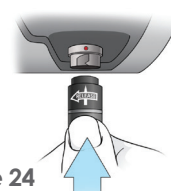

Figure 24
2. Line up the solid white arrow on the cable connector with the dot on the controller (Figure 24).